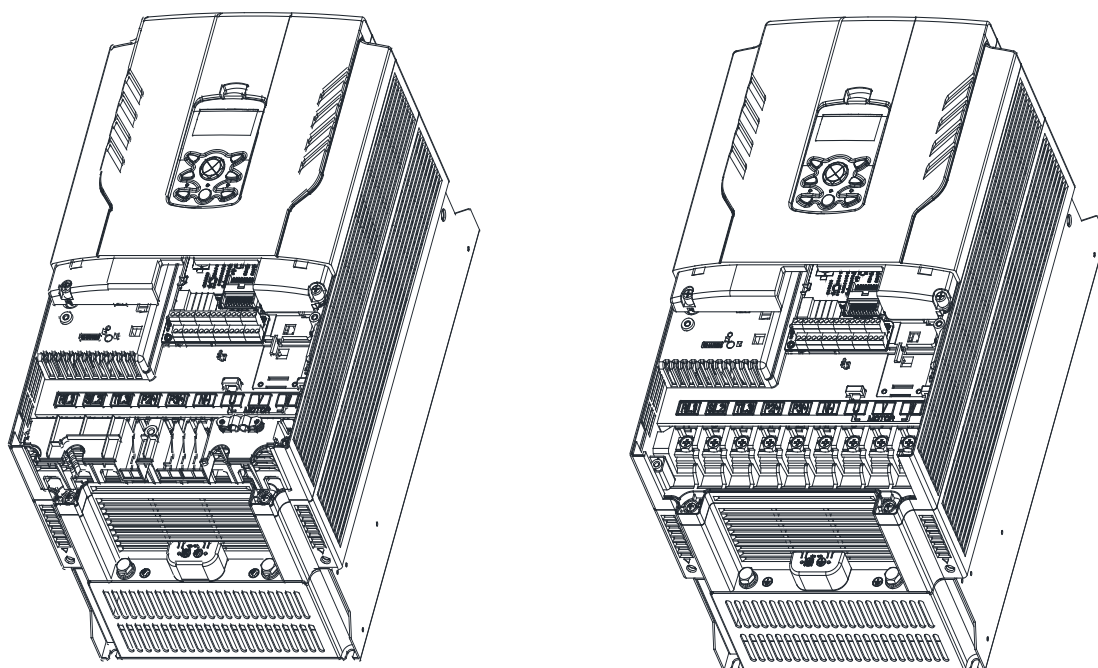

Figure 13. Remove Power Cover and CABLE Guide
- ① Remove the Power cover and cable guide of the product as shown in the Figure 13.